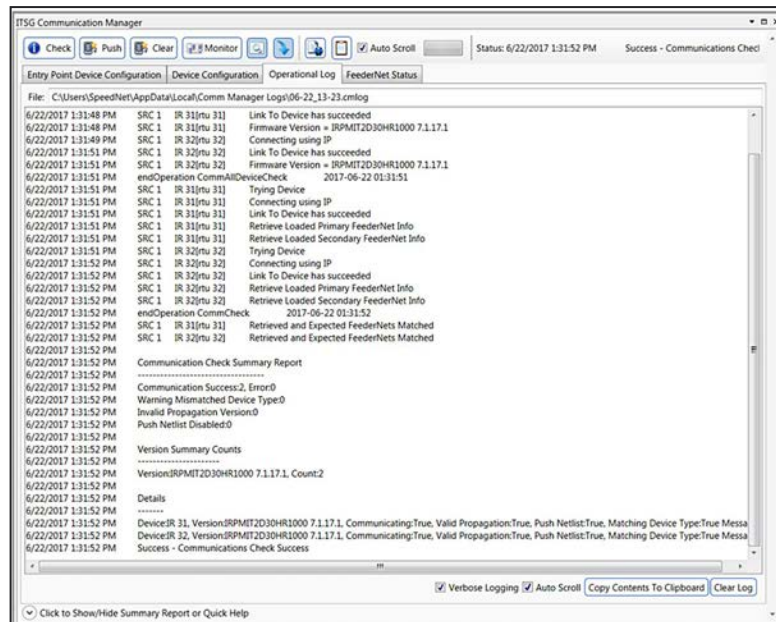

Figure 88. The *Operational Log* screen showing a successful communications check.
- STEP 2.** Click the **Operational Log** tab to see a report of the communication test. A summary report is shown at the bottom. The log contents can be copied to the clipboard for future reference. See Figure 88.